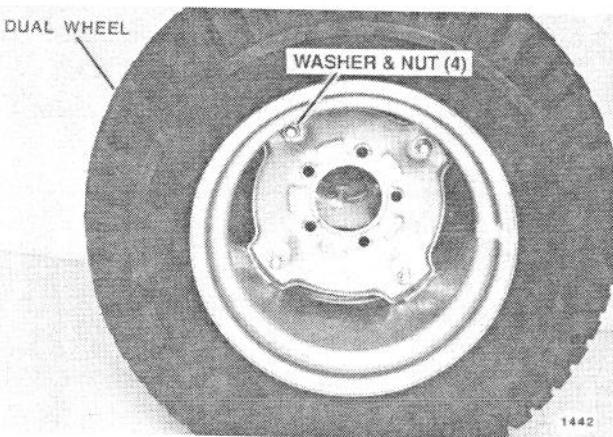

FIG. 2 Dual Rear Wheel Installed
5. Slide dual wheels and washers onto carriage bolts and secure in place with nuts (Fig. 2). Tighten nuts to 50 ft. lbs. (68 Nm).
1. Remove nuts and washers from dual rear wheels (Fig. 2).